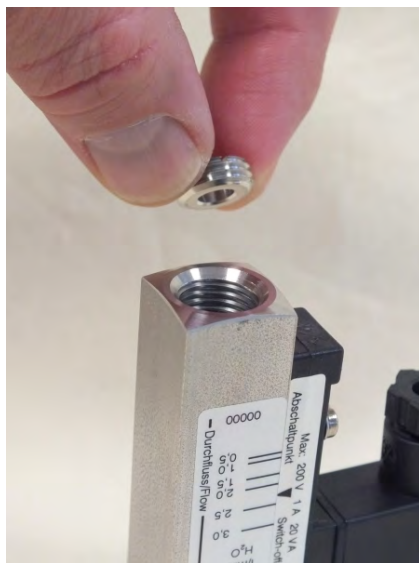

Fig. 43: Insert threaded ring (inlet)
1. ➔ Insert the threaded ring (inlet) into the device body (inlet) (Fig. 43)